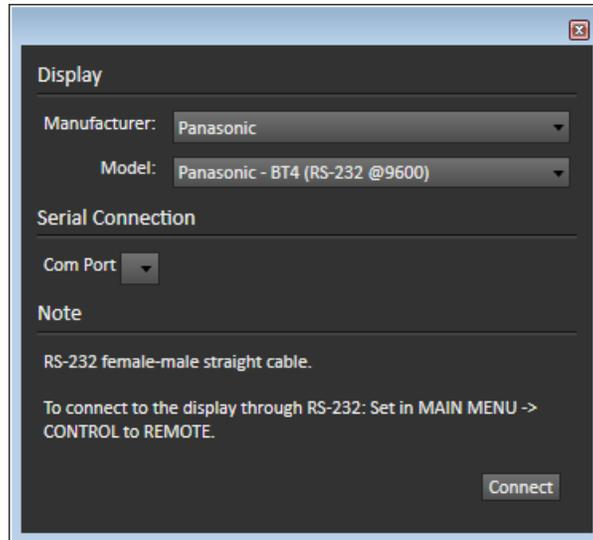

Figure 2. CalMAN Find Display dialog, for connecting to the Panasonic to automatically load the 3D LUT.
2. On the *Find Display* dialog (Figure 2), under *Manufacturer*, select 'Panasonic.'